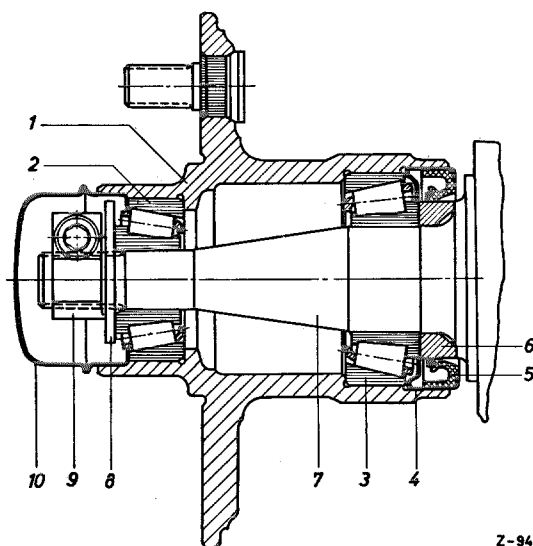

Fig. 33 — 4/3
Slacken the hexagon socket screw of the clamping nut (9) on the wheel spindle. Take off the clamping nut (9) and remove the ground steel washer (8) (see Fig. 33 — 4/3).